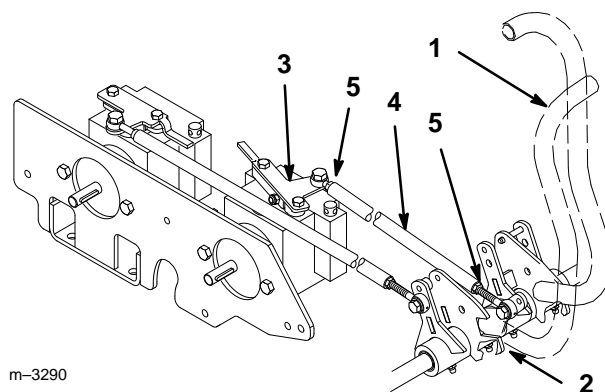

Figure 31
- Loosen jam nuts on pump control rod (Fig. 31).
- Push and firmly hold motion control lever against forward stop (Fig. 31).
- Rotate pump control rod until pump control plate is in the full forward position (Fig. 31). Motion control lever will lift off forward stop.
- Rotate control rod 1 turn, to lengthen rod, and tighten jam nuts (Fig. 31).